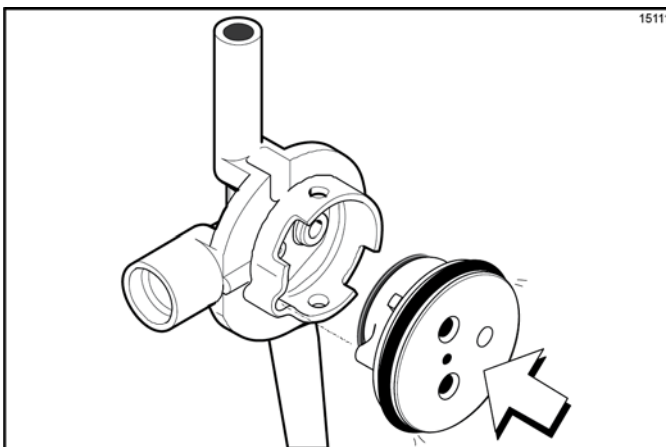

Figure 6-40
7. Insert the valve cap into the hole in the mix inlet adapter. (See Figure 6-40.)